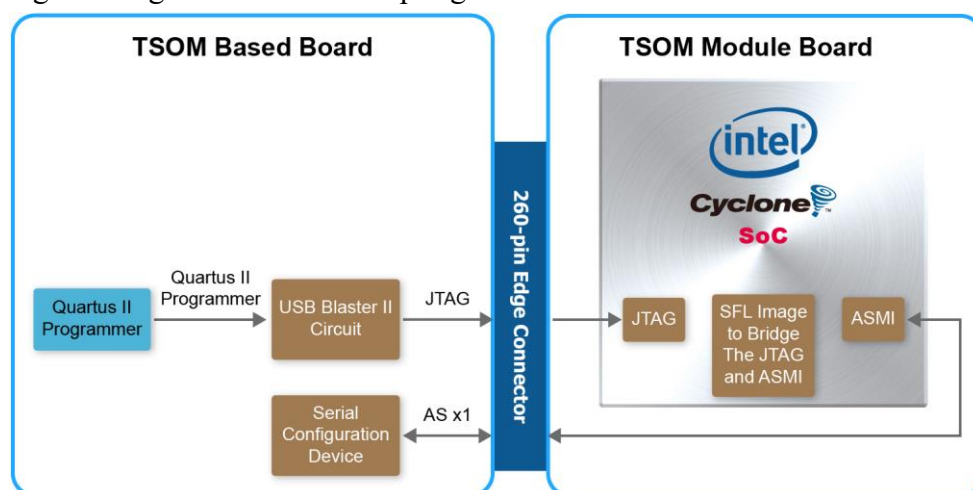

Figure 3-12 Programming a serial configuration device with SFL solution
Users need to use Serial Flash Loader (SFL) to program the serial configuration device via JTAG interface. The FPGA-based SFL is a soft intellectual property (IP) core within the FPGA that bridge the JTAG and Flash interfaces. The SFL Megafunction is available in Quartus II. **Figure 3-12** shows the programming method when adopting SFL solution.